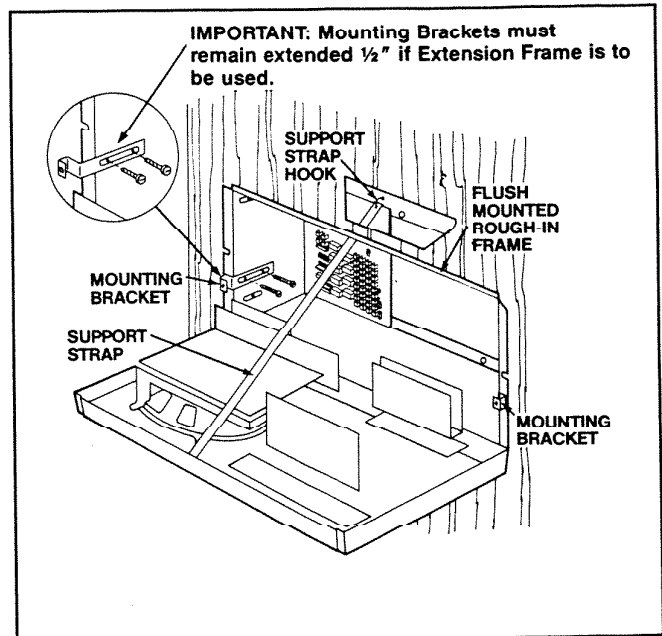

FIGURE 8
1. Refer to Figure 8. Use two No. 6 x $\frac{3}{8}$ " screws to attach mounting brackets to rough-in frame. Using bottom set of holes, make sure brackets are flush to wall or rough-in. **NOTE: If Extension Frame is to be used, the mounting brackets must be extended $\frac{1}{2}$ " from wall or rough-in as illustrated in Figure 8.**
5. Attach support strap to rough-in by placing hook into hole in rear flange of rough-in frame. See Figure 8.